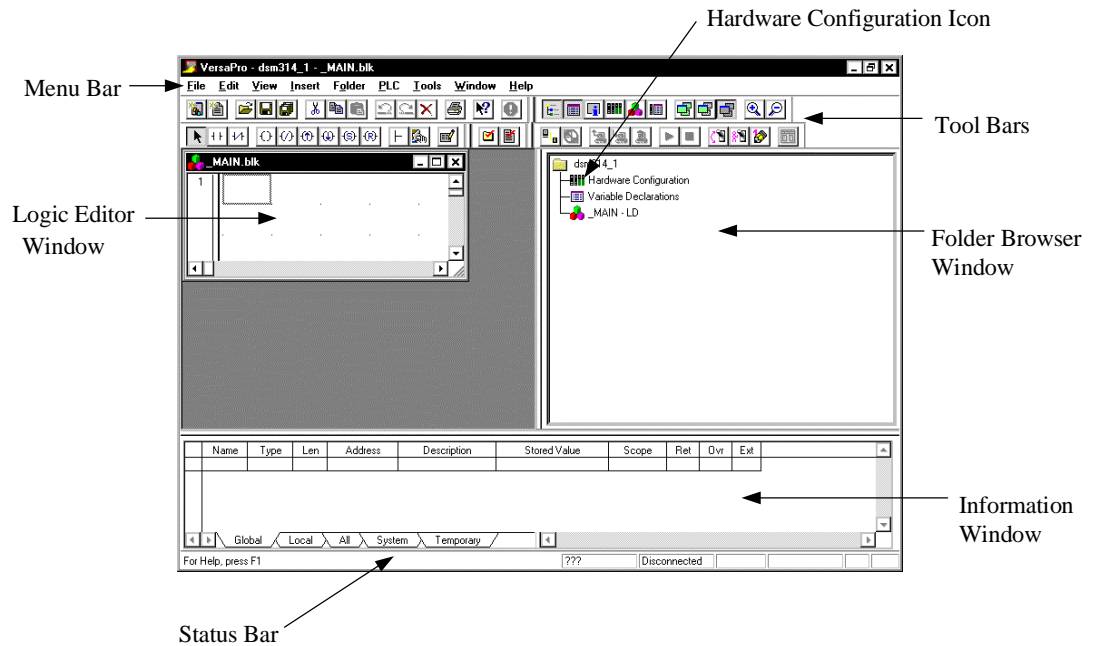

Figure 15-4. VersaPro’s Main Ladder Diagram (LD) Screen
- Before creating a file, check the Workbench default settings to make sure that Series 90-30 is the default PLC. To do this, click Tools on the Menu bar (see Figure 15-4), then click the Options selection. The Options dialog box will appear, as shown next: